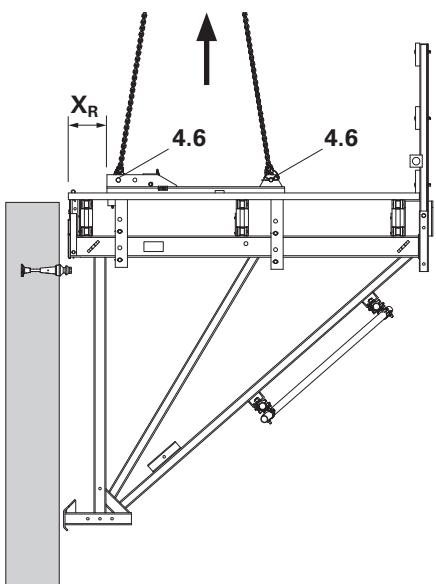

Fig. B1.21
7. Move platform. (Fig. B1.21)